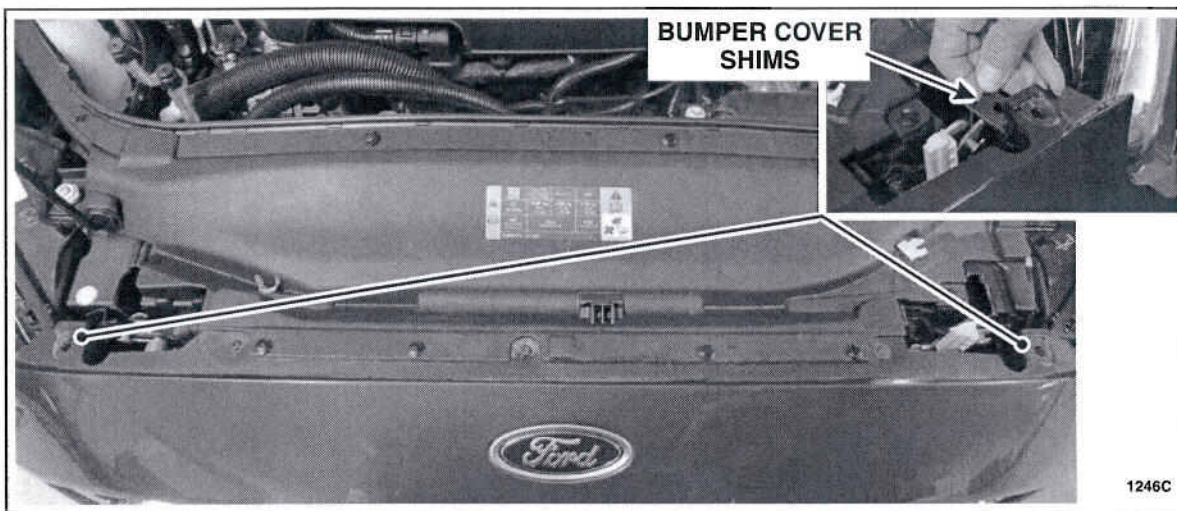
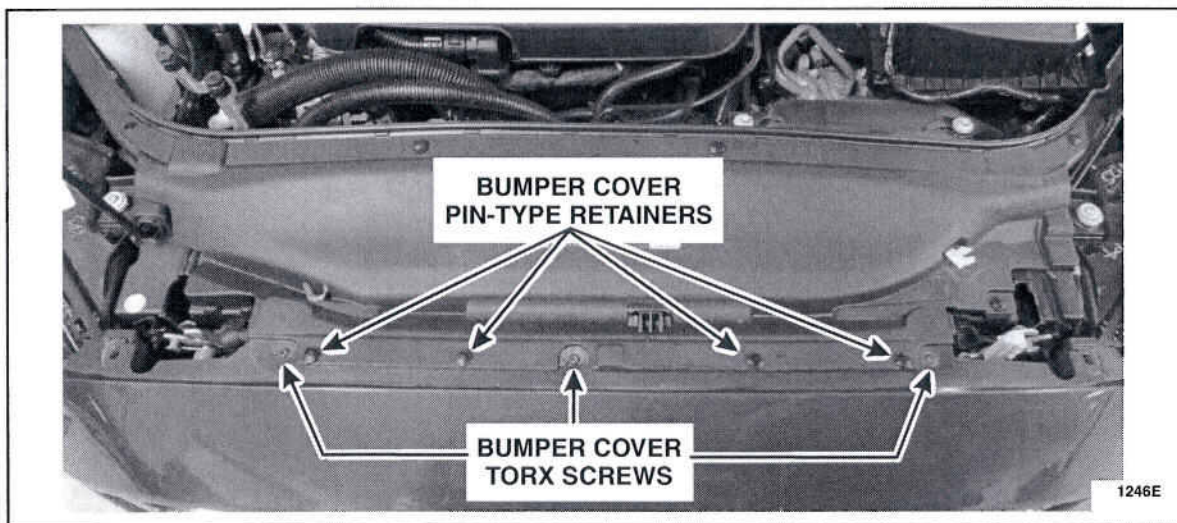
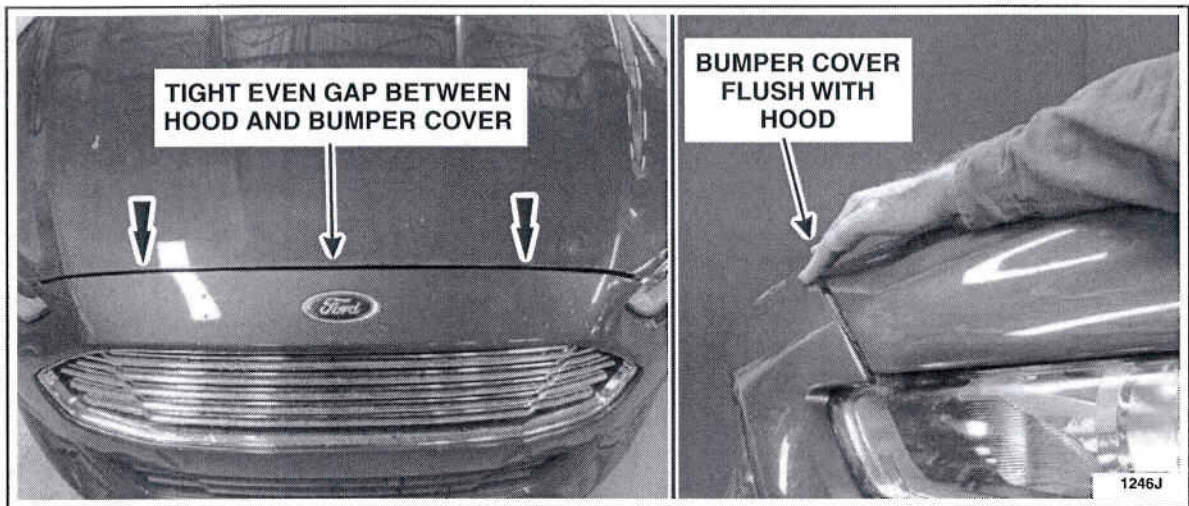

FIGURE 8
FIGURE 9
FIGURE 15
9. Remove the shim(s) located under the bumper cover at the previously removed pin-type retainer locations. See Figure 8.
10. Remove the three torx screws and four pin-type retainers from the front bumper cover. See Figure 9.
4. Install the three torx screws and four pin-type retainers into the front bumper cover. See Figure 9.
5. Install the bumper cover shim(s). See Figure 8.
11. Close the hood and check the gap between the bumper cover and hood. See Figure 15. If necessary, loosen the three bumper cover torx screws (See Figure 9), adjust the bumper cover to obtain a tight and even gap, and retighten the screws. If bumper cover is not flush with the hood, check to make sure the bumper cover shim(s) were reinstalled. See Figure 8.